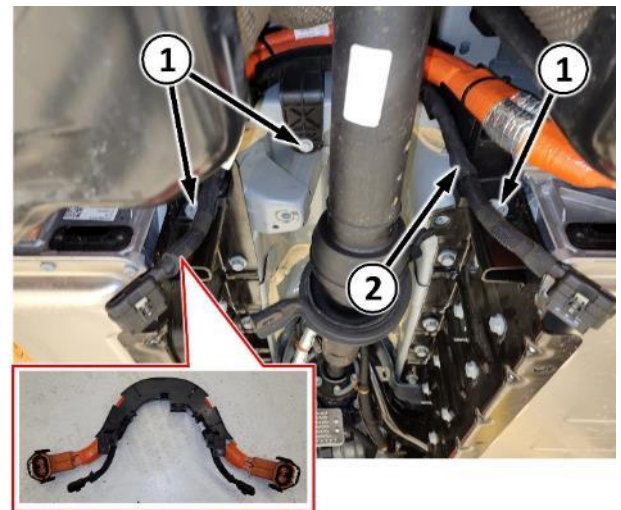

Figure 51 – HV Battery Jumper Harness
- 37. Remove the fasteners securing the HV battery jumper harness (Figure 51).
- 38. Remove the HV battery jumper harness from the vehicle (Figure 51).
54. Install the HV battery jumper harness. Tighten the upper body fasteners to 6 N·m (53 In. Lbs.) and two lower battery fasteners to 8 N·m (71 In. Lbs.) (Figure 51).